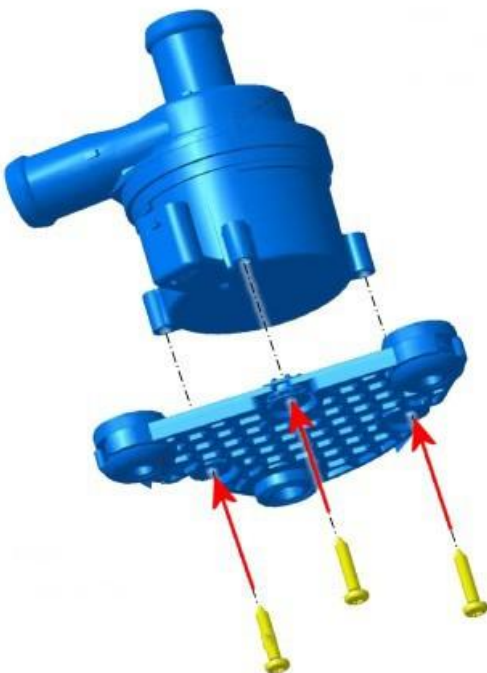

Figure 3
- Fit the new bracket - 971.819.595F - to the new “Additional Coolant Pump” - 06D.121.601 - using the three original fixings – *N.106.564.02* “Oval head panel screw” (2.5 Nm) – figure 3.